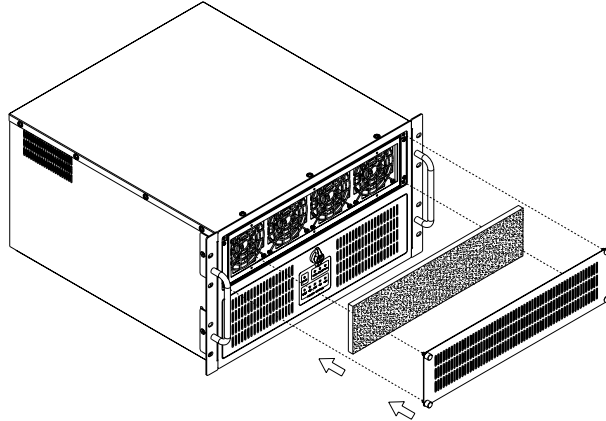
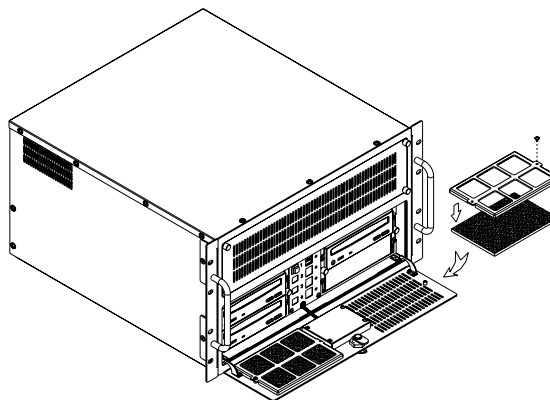

Figure 3.3 Replacing the filter
Figure 3.4 Replacing the filter
The filter blocks dust or particles from the work environment from entering the chassis and extends system life. It is better to replace filters periodically. There is one filter behind the front upper cover and one filter each on the lower left and lower right sides of the front door. To replace a filter, please refer to Figure 3.3 and Figure 3.4 and proceed as follows.
1. Loosen the four thumb screws located on the front upper cover and then gently pull it forward. Please see Figure 3.3.
2. Loosen the screw located on the filter cover. Please see Figure 3.4.